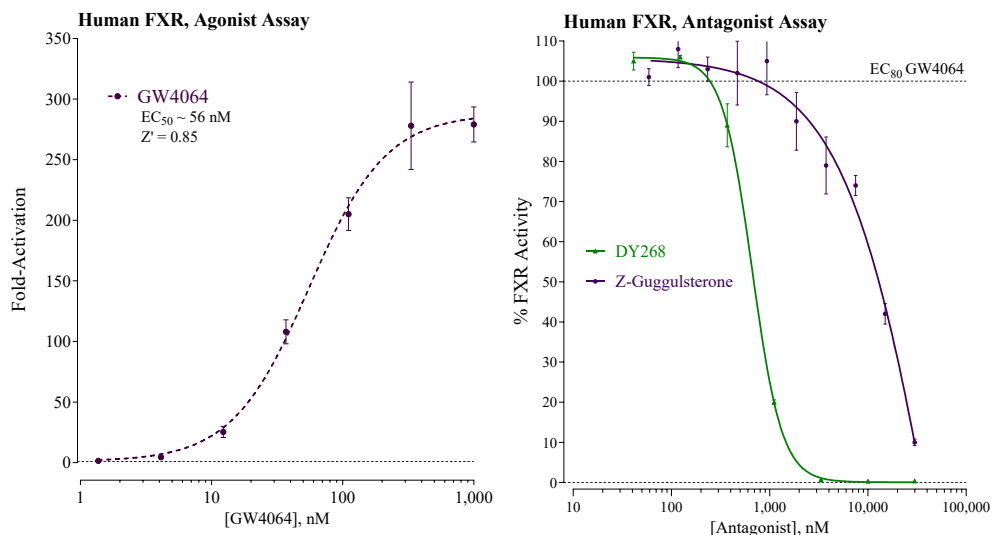

Figure 2. Agonist and Antagonist dose-responses of the FXR Assay.
- *Optional:* antagonist reference compound (see Fig. 2).
Receptor inhibition assays expose the Reporter Cells to a constant, sub-maximal concentration (typically between EC_{50} – EC_{85}) of a known agonist AND the test compound(s) to be evaluated for antagonist activity. This FXR assay kit includes a 5.0 mM stock solution of GW4064, a potent agonist of FXR (Figure 2) that may be used to setup such receptor inhibition studies. ~150 nM GW4064 typically corresponds to ~ EC_{80} in this cell-based assay. Hence, it presents a suitable concentration of agonist to be used when screening test compounds for inhibitory activity.